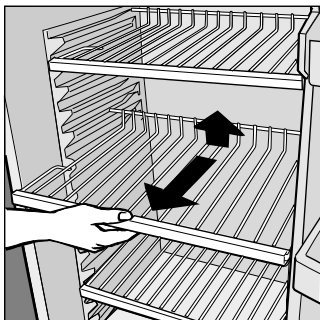

Fig. 1
- The refrigerator compartment is equipped with practical, removable shelves (Fig. 1) which can be adjusted for height using the shelf guides. This allows you to place large items in the refrigerator. These shelves can also be tilted for storage of opened bottled.